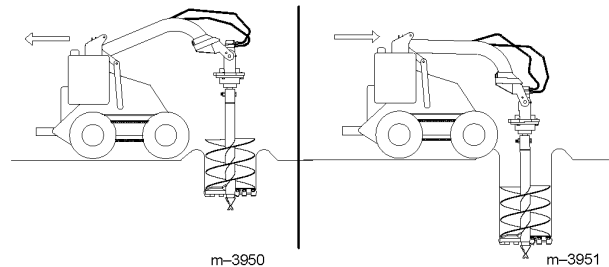

Figure 9
- Lower the auger slowly as the soil is loosened. As you dig deeper, move the traction unit backward or forward as required to keep the hole vertical (Fig. 9).